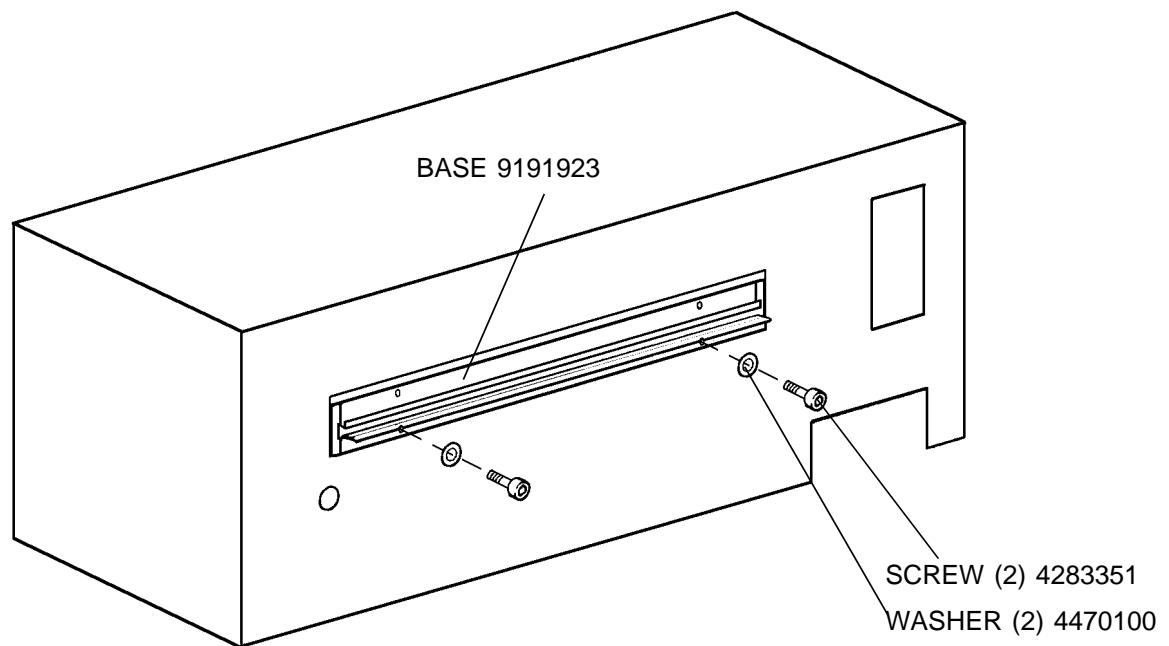

figure 3
8. Install the BASE 9191923 to the REAR SIDE of the TUNNEL using two SCREWS 4283351 with two WASHERS 4470100. See figure 3.